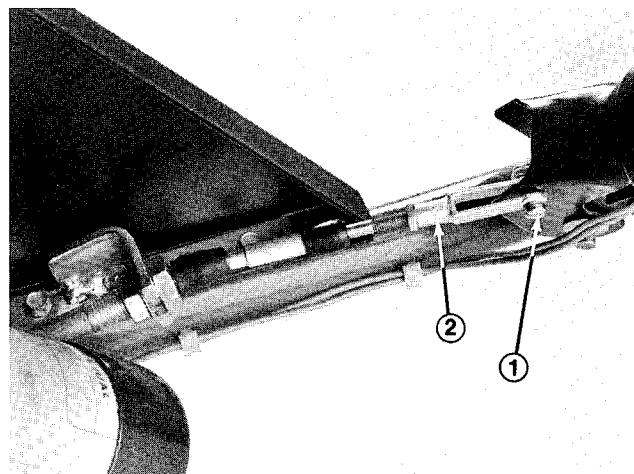

Figure 45
1. Remove screw and nut securing cable clevis to brake lever (Fig. 45).